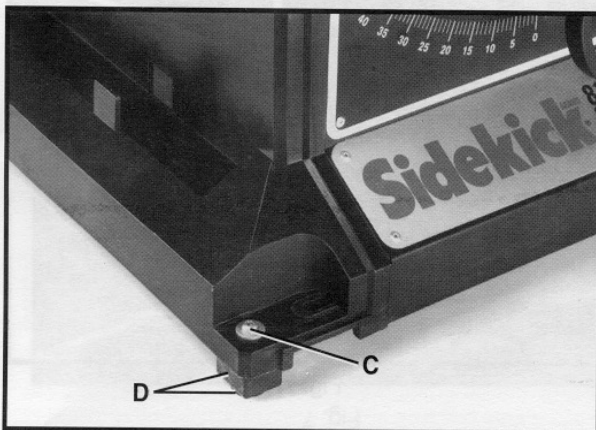

Fig. 4A
1. Loosen hardware (C) Fig. 4A and remove riser block and rubber foot (D) from each corner of the machine. **NOTE:** Do not discard hardware as it can be used again to remount the riser blocks and rubber feet if necessary.